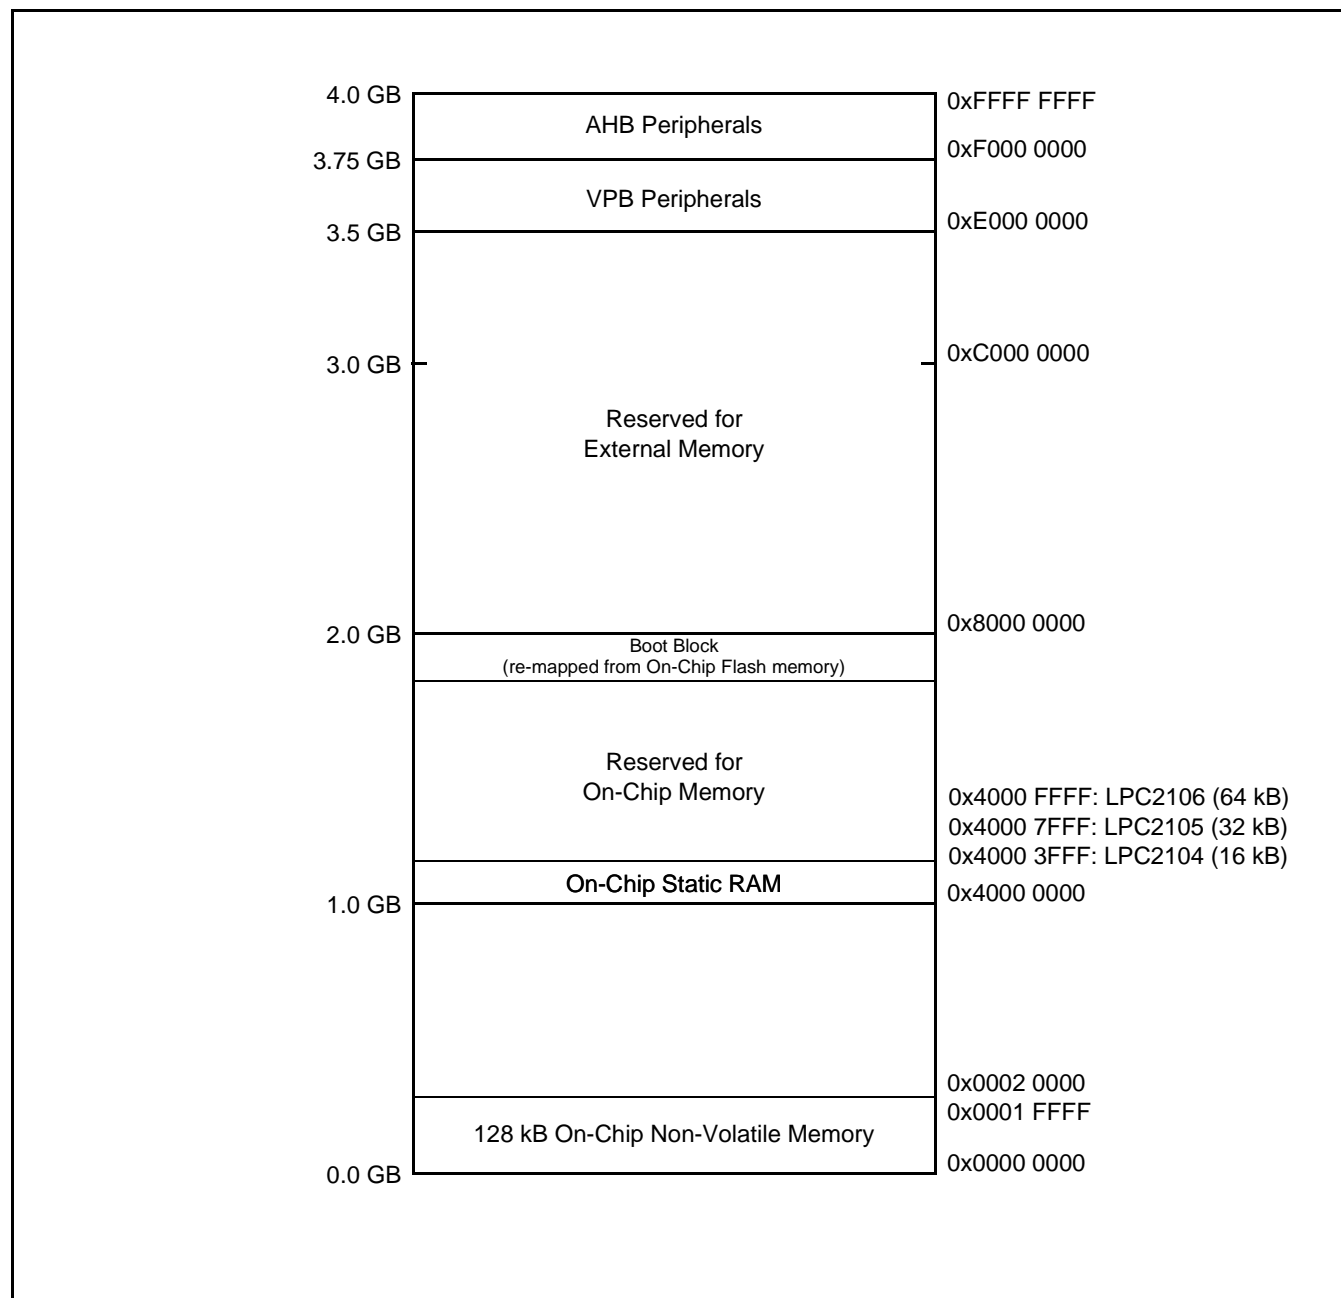
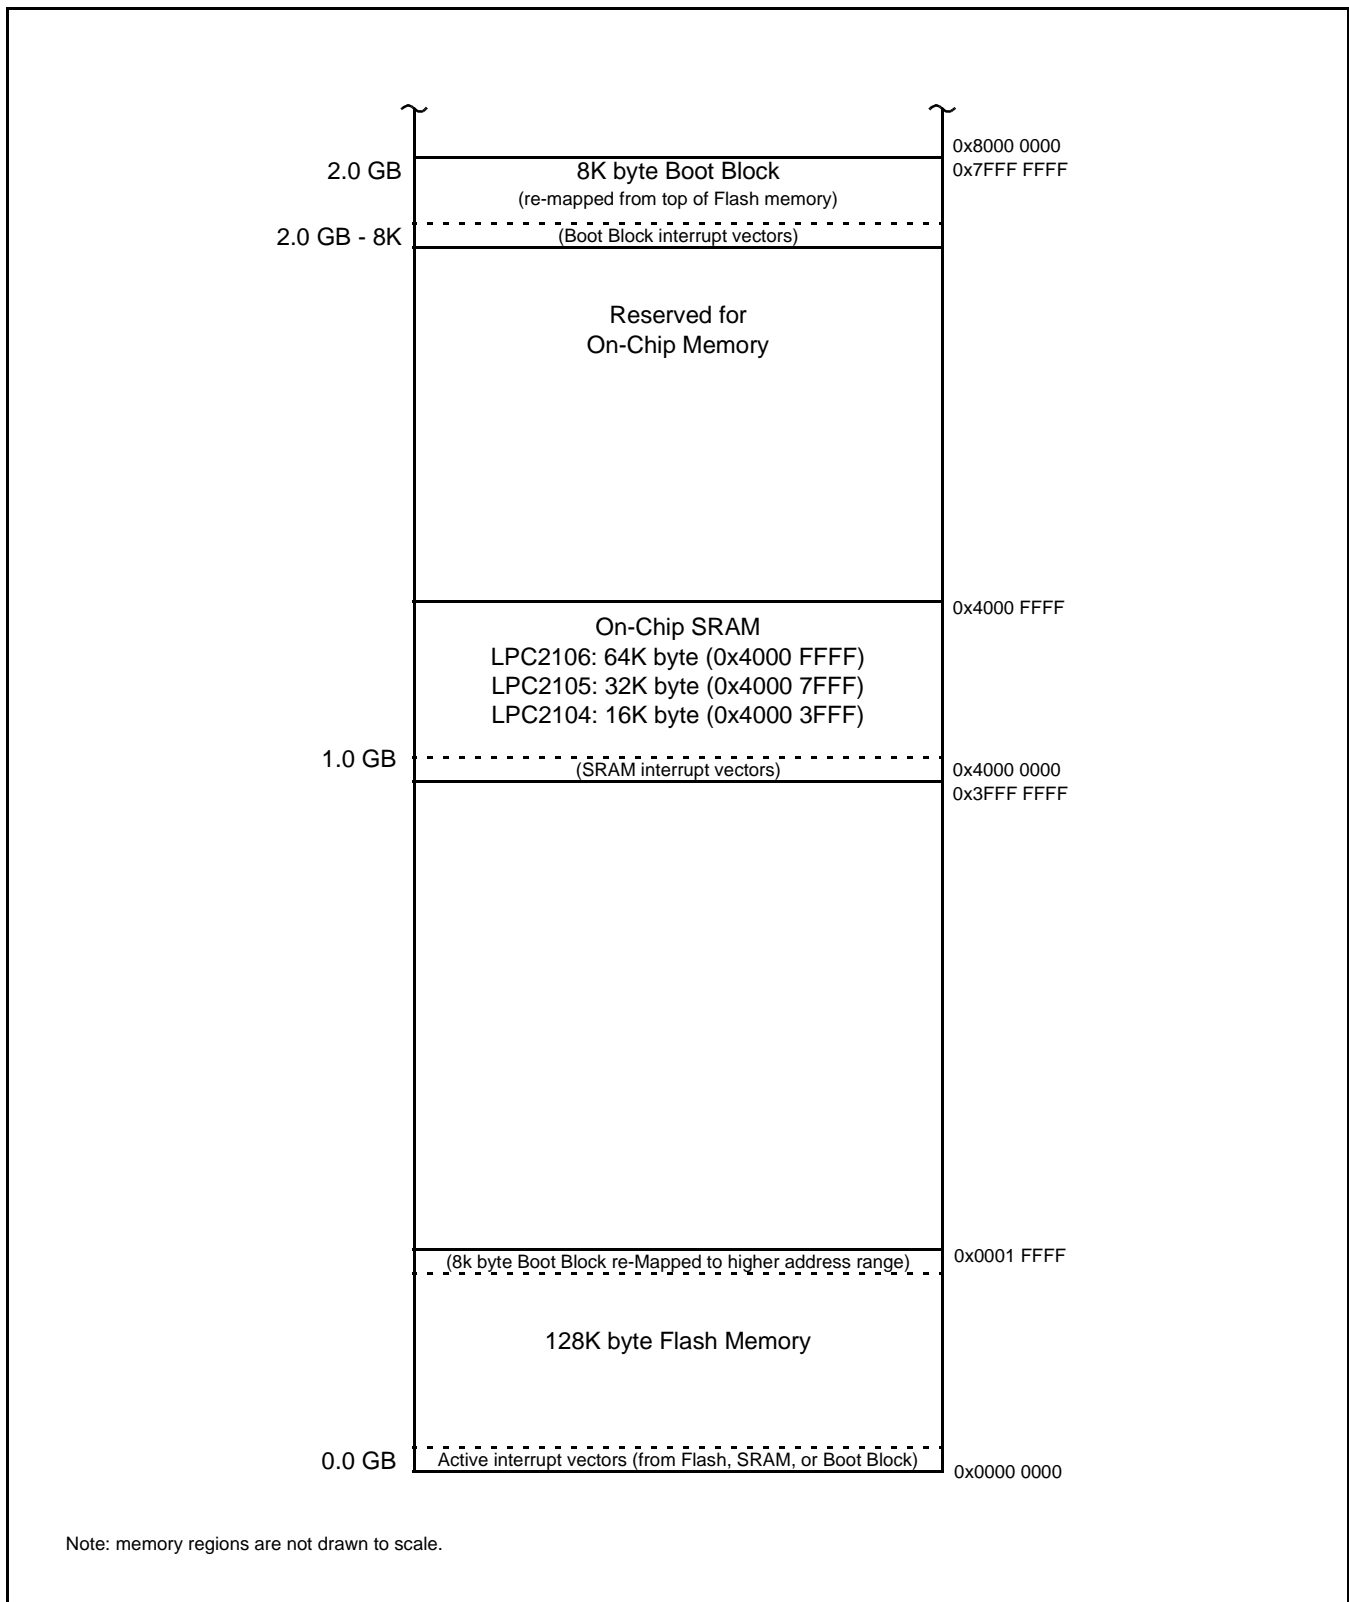

Figure 2: System Memory Map
Figure 6: Map of lower memory is showing re-mapped and re-mappable areas.
In order to allow for compatibility with future derivatives, the entire Boot Block is mapped to the top of the on-chip memory space. In this manner, the use of larger or smaller flash modules will not require changing the location of the Boot Block (which would require changing the Boot Loader code itself) or changing the mapping of the Boot Block interrupt vectors. Memory spaces other than the interrupt vectors remain in fixed locations. Figure 6 shows the on-chip memory mapping in the modes defined above.
- Address space between On-Chip Non-Volatile Memory and the Special registers. Labelled "Reserved for On-Chip Memory" in Figure 2 and Figure 6.
- Address space between On-Chip Static RAM and External Memory. Labelled "Reserved for On-Chip Memory" in Figure 2.